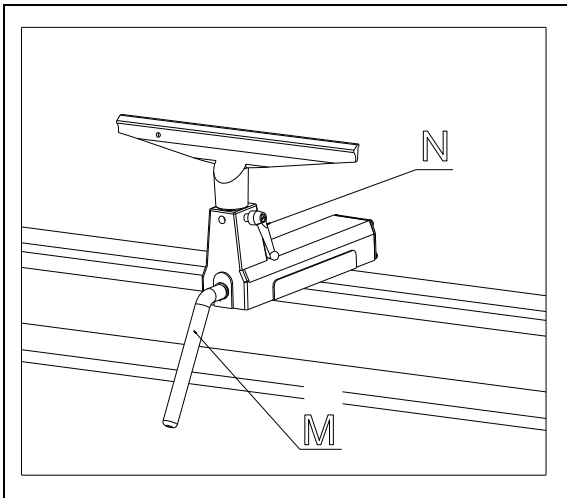

Fig.7
9. Tool Rest Body Lock Handle: (M, Fig. 7) Locks the tool rest body in position. Unlock handle to position the tool rest in any location along lathe bed. Tighten handle when properly positioned.
10. Tool Rest Lock Handle: (N, Fig. 7) Locks the tool rest in position. Unlock the handle to position tool rest at a specific angle, or height. Tighten handle when properly positioned.